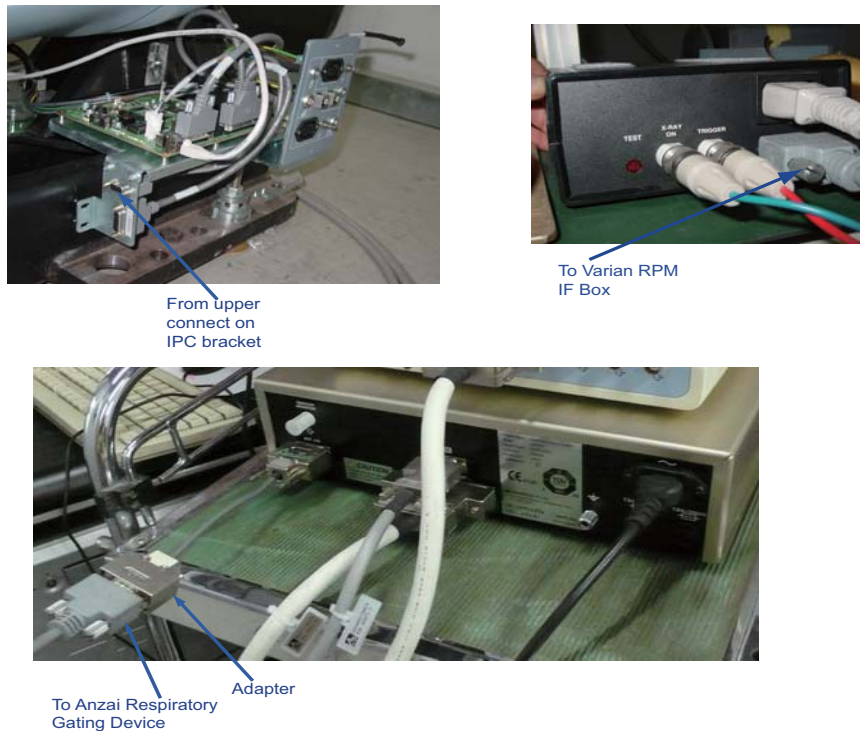

Figure 1-1 Respiratory Gating Cable (5199717) Connection
- 5.) Connect the RPM to Gantry Cable (5199717) from IPC bracket to RPM IF box. Please refer to Figure 1-1.